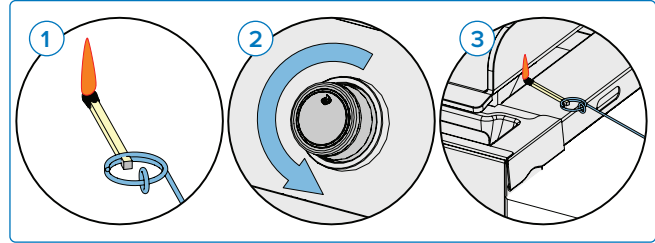

Fig. 7
3. While turning the corresponding burner knob to high. **(Fig. 7).**